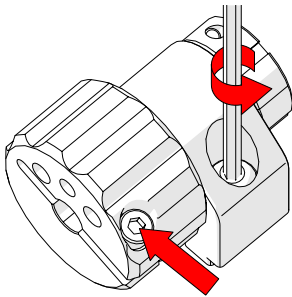

Fig. 126 - Loosen screws
1. Ensure the lock screw and the hexagonal screw in the main knob are loose (Fig. 126).